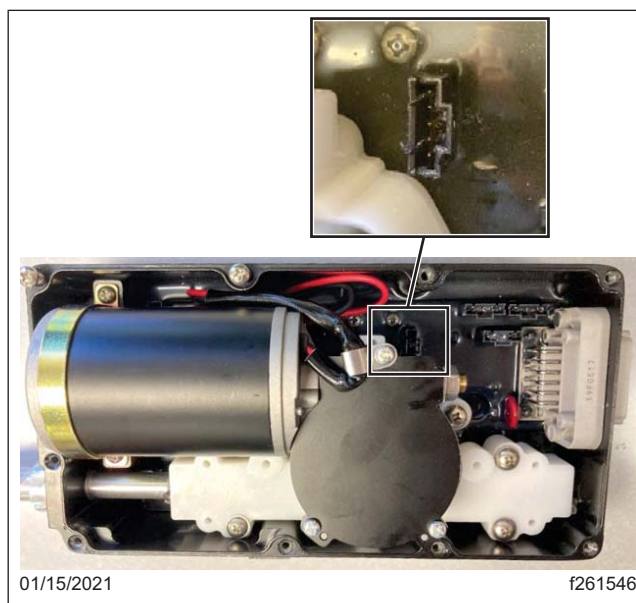

Fig. 3, IDC Connector Port Location
9. Connect the Orscheln® ORSEA02017-01 programmer cable into the 5-pin insulation-displacement connector (IDC) on the actuator printed circuit board (PCB). See Fig. 3.